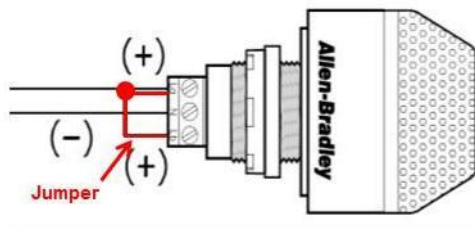

Figure 9-14 RSL jumper wiring
- C.** wired for solid light operation, by placing a jumper between the "La" and "Lb" terminals on the light per Figure 9-14.